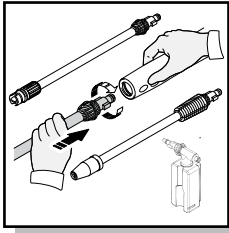

Fig. 7
- While the spray gun is in the locked position, insert the turbo lance, the adjustable spray lance, or the detergent bottle directly into the end of the spray gun by inserting and pushing together and turning clockwise simultaneously. To remove push together and turn counter clockwise (Fig. 7). Push the safety lock button to lock the trigger when changing lances or detergent bottle, to ensure that they do not accidentally eject with force during removal.